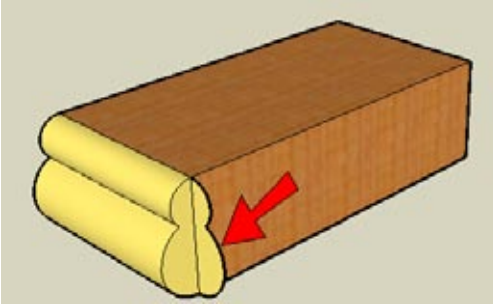

Figure 4-17
3. For the next edge, you need to copy the rounding face so that is perpendicular to the edge. Select the front face of the Push/Pull operation you just completed and activate Rotate. Place the protractor at the corner of the table, keeping it oriented to the table top (the protractor's preview color should be blue). Press Ctrl/Option for copying and make a 90-degree copy (Figure 4-17).